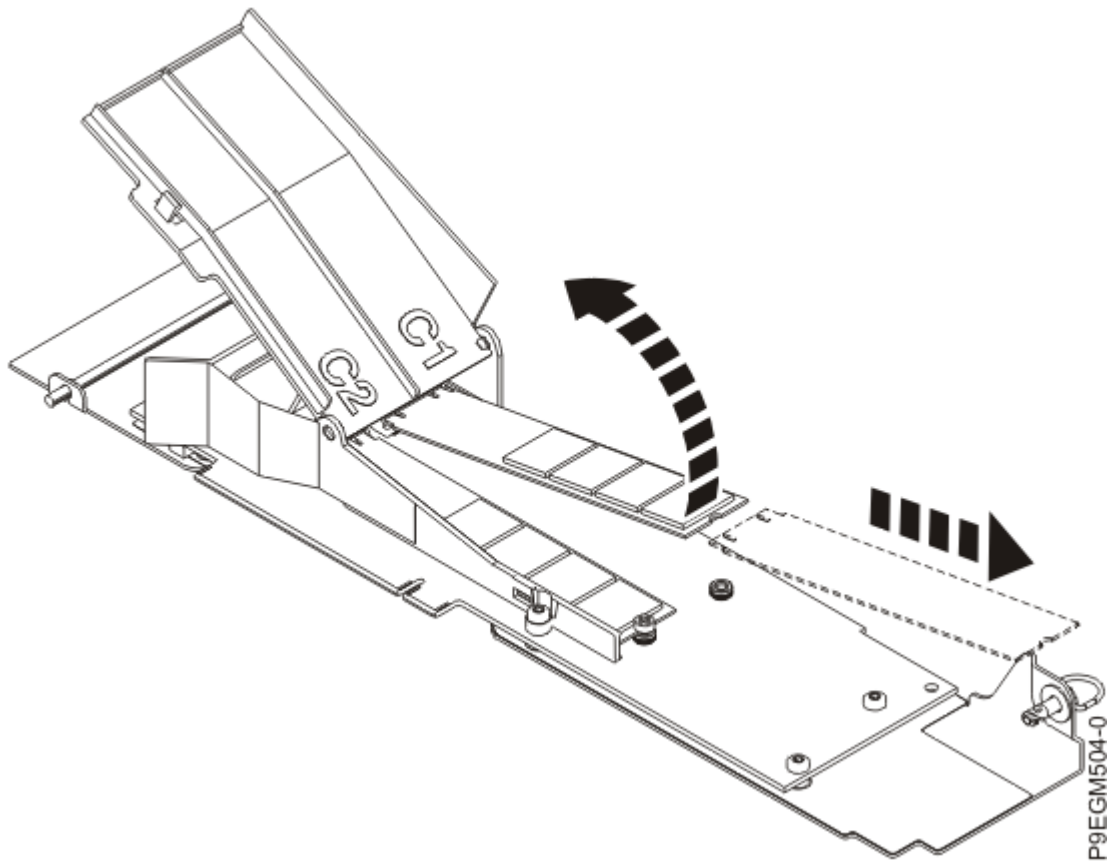

Figure 31. Removing the NVMe M.2 carrier card flash module
- c) Remove the NVMe M.2 flash module by lifting and rotating it as shown in Figure 31 on page 37.